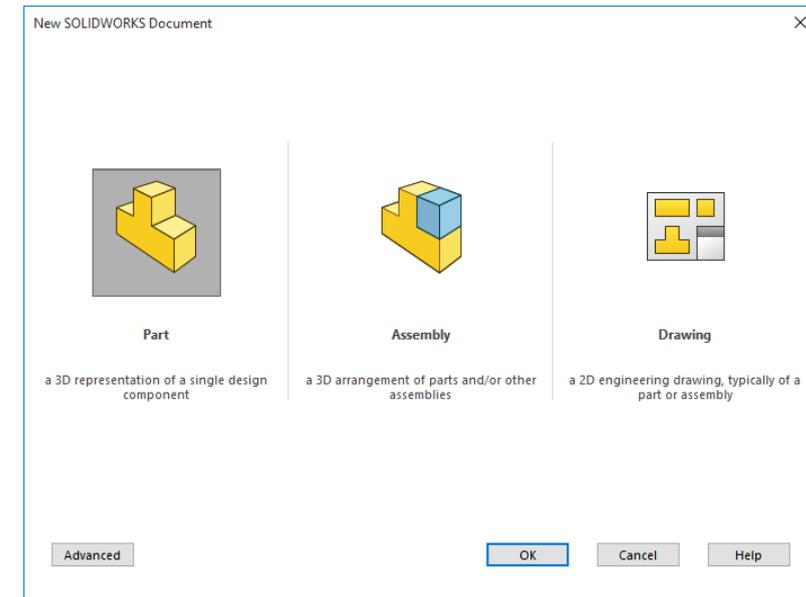

Figure 2-59 The **New SOLIDWORKS Document** dialog box
- Choose the **Part** button available in the **New** area of the **Home** tab in the **Welcome - SOLIDWORKS 2019** dialog box. A new SOLIDWORKS part document is invoked. You can also select the **New** button from the Menu Bar; the **New SOLIDWORKS Document** dialog box is displayed, as shown in Figure 2-59.